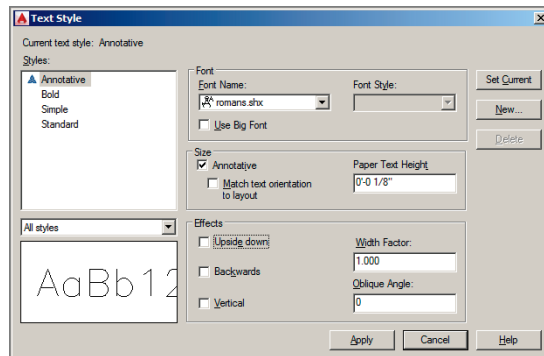

FIGURE 15.7 Setting the height of the Annotative text style
1. Type **ST** (for Style), and press Enter. Select the Annotative style in the Styles list on the left side of the Text Style dialog box. Select romans.shx in the Font Name drop-down menu. Type **1/8"** (or **0.30 cm**) in the Paper Text Height box (see Figure 15.7). Click Apply, select Set Current, and then click Close.